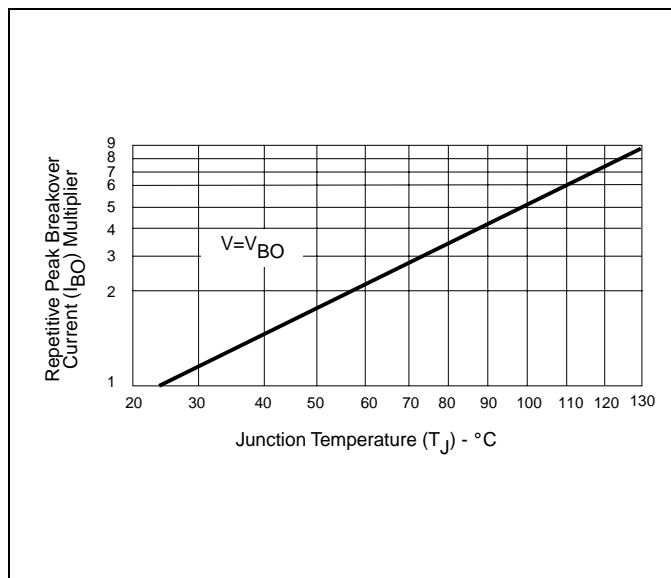

Figure 9.6 Normalized Repetitive Peak Breakover Current vs Junction Temperature
- See Figure 9.6 for  $I_{BO}$  vs junction temperature.